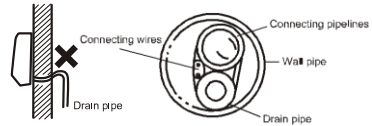

Fig 6
- c. The drain pipe should not curve upward(Fig 6).
- d. The drain pipe should be at the lower part of the wall pipes(Fig 6).